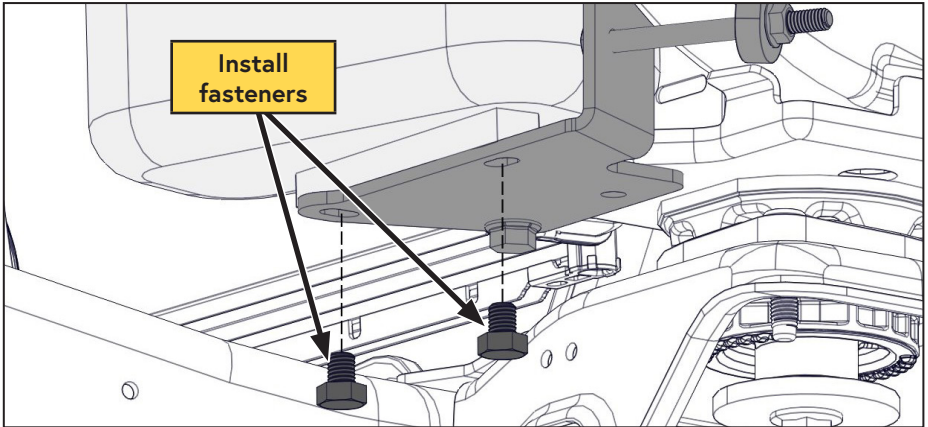

Figure 36 — Install bottom cooler fasteners
- ☐ Install the (x2) bottom cooler fasteners (Figure 36).